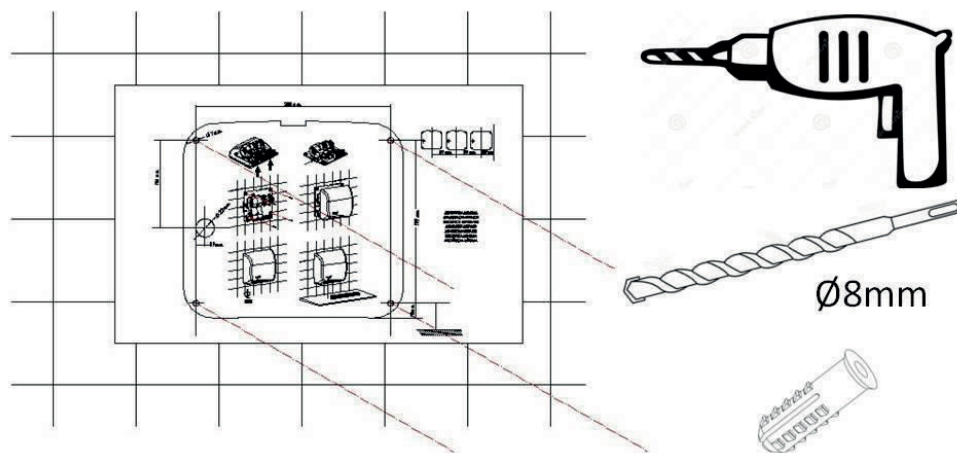

Fig. 6
1. Drill four Ø 8 mm (Ø 0.31") holes using the supplied template. Clean up the holes once they have been made. Insert the four plugs until they are flush with the surface (see figure 6).
3. Assure that the four silent blocks of the base-plate are properly located. Screw in the four supplied screws to firmly secure the base of the appliance to the wall (see figure 6).